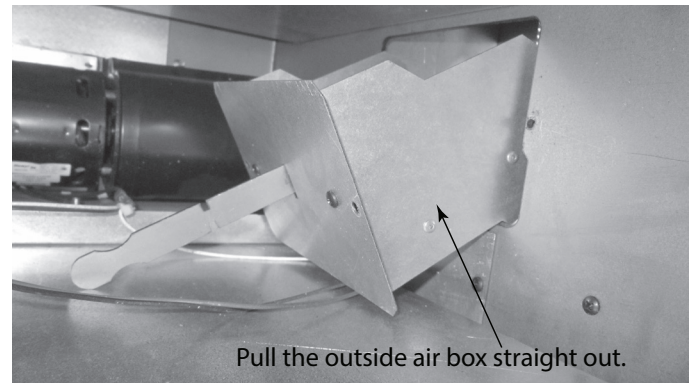

Figure 3.16 Outside Air Box
5. Pull the outside air box straight out. See Figure 3.16.